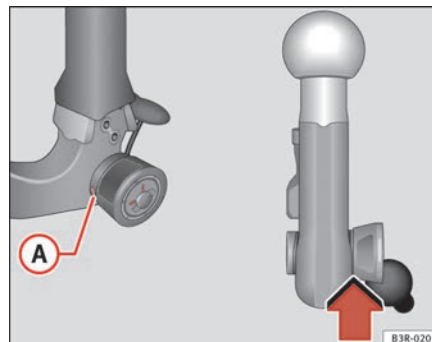

Fig. 154 Removable towing bracket: Safety check
- Check that the green marking **A** ⇒ page 192, fig. 154 on the knob is inside the black zone marked on the ball joint.